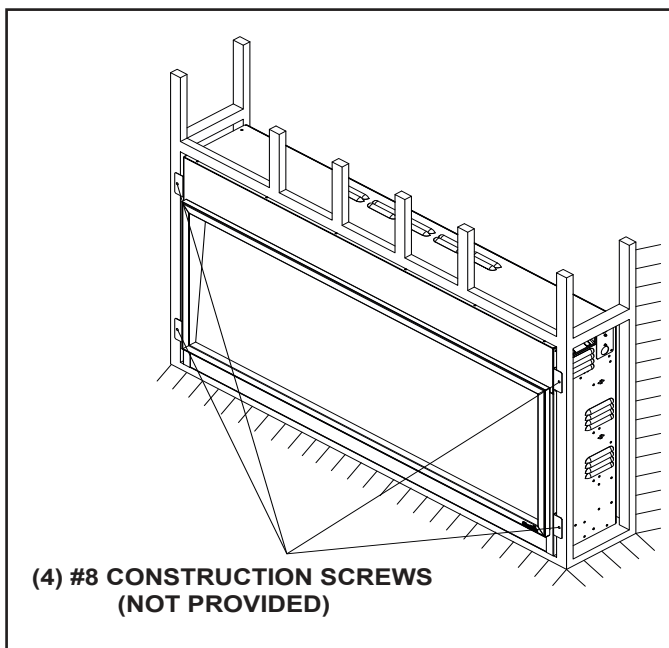

Figure 4.3 Install Appliance
3. Install the appliance into the opening reference Figure 4.3. Ensure that weight of appliance is fully supported by floor or bottom framing member. Level with shims if necessary. Ensure that it is centered left to right, then fasten it directly to the framing with four (4) #8 construction screws, one through each of the four (4) mounting brackets. Screws are not included.